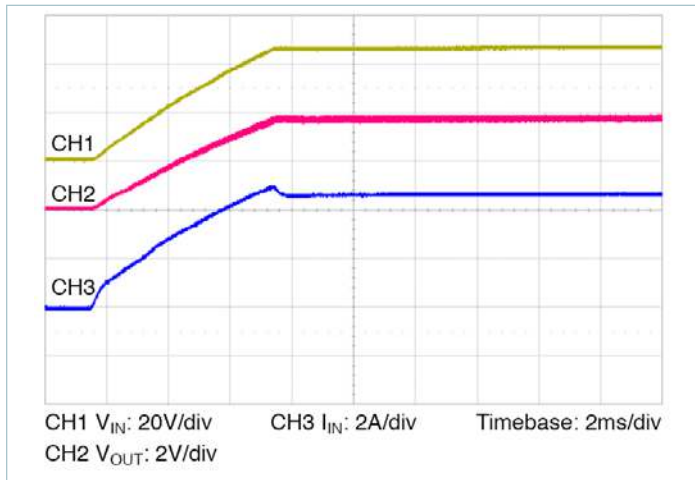

Figure 13 — Start up from application of  $V_{IN}$ ; VC pre-applied  $C_{OUT} = 9100\mu\text{F}$
- **Normal operation (VC applied prior to  $V_{IN}$ ):** In this case the controller is active prior to ramping the input. When the input voltage is applied, the VTM module output voltage will track the input (See Figure 13). The inrush current is determined by the input voltage rate of rise and output capacitance. If the VC voltage is removed prior to the input reaching 26V, the VTM may shut down.